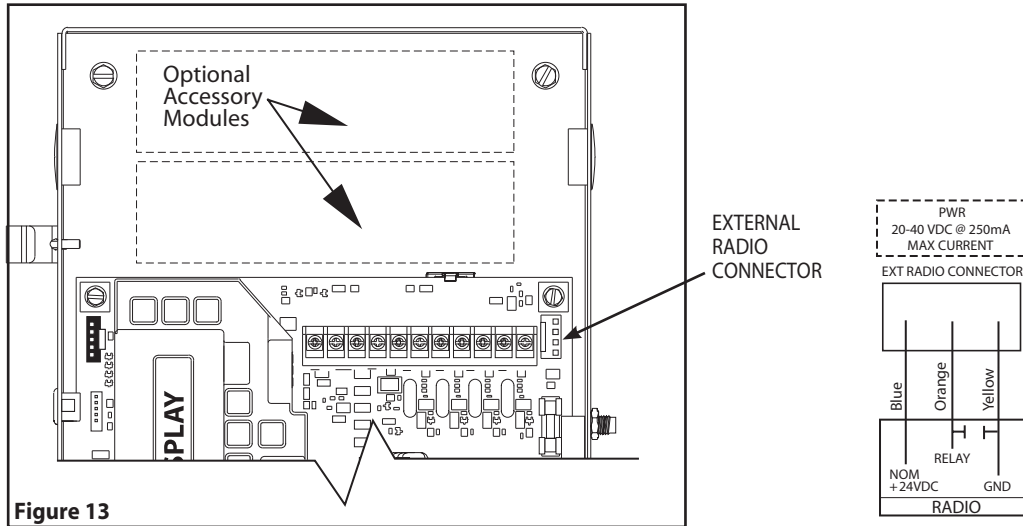

Figure 13
- 1) Plug the pigtail with the 3 wires attached (provided) onto the plug connector marked "EXT RADIO." **Fig. 13.**